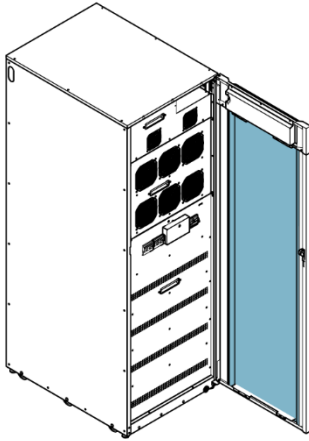

Figure 45. Air filter location
2. Check the UPS air filters (located behind the front door) and wash or replace them as necessary. See Figure 45 for the filter location. Contact your Eaton service representative for replacement filters. To remove the filters: